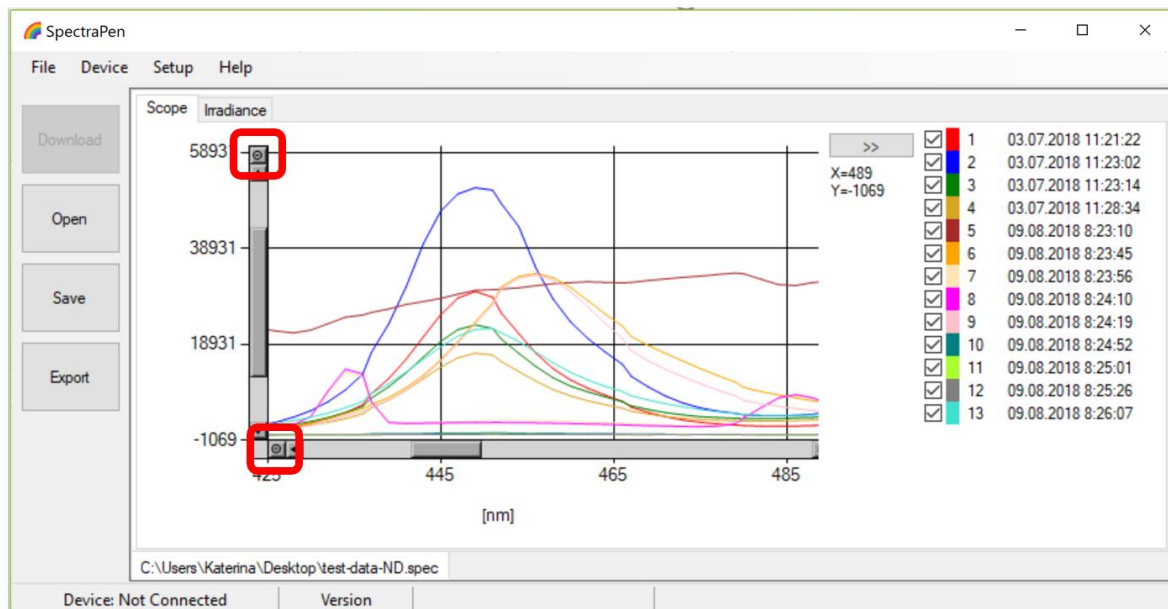

Fig. 31 Zoom function.
9. To **zoom in on the data displayed in the graph** select an area of the displayed graph (Fig. 31). To reverse these steps and return to original display use minus icon in the corners of the zoom area marked with red rectangles in Fig. 31.